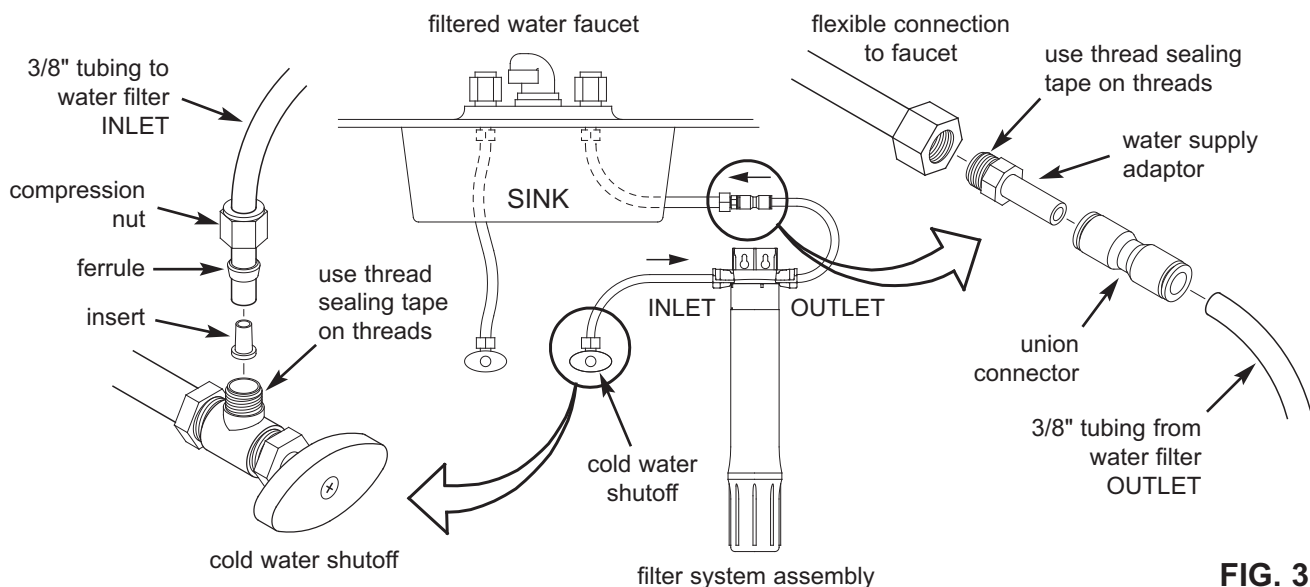

FIG. 3
Check and **comply with local plumbing codes** as you plan, then install the fittings to connect the undersink filter into the sink's cold water supply line. Fittings (9/16-24 thread) and 3/8" O.D. tubing are included to provide connections to and from the undersink filter's inlet and outlet. A typical connection using the included water supply fittings is shown in Figure 3.
3. Locate one piece of the supplied 3/8" tubing, plus the supplied compression nut, ferrule and tubing insert (See Fig. 3). Assemble the parts onto the tube, as shown in Figure 3, and thread the compression nut onto the cold water shutoff. Tighten to provide a leak-tight connection.
4. Locate the water supply adaptor (supplied) and, using thread sealing tape, install it into the nut on the supply line which you disconnected in Step 2. Refer to Figure 3.
5. Press the stem of the water supply adaptor into one end of the supplied union connector (See Figure 3). Be sure to push the stem all the way in.